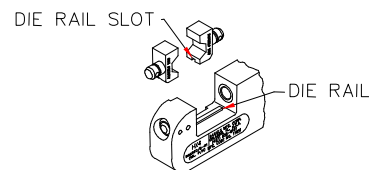

FIG. 1
2. Align die rail slots in die halves with the rail in the crimp tool and push shank of dies into holes. Dies will snap into place. (See Figure 1)